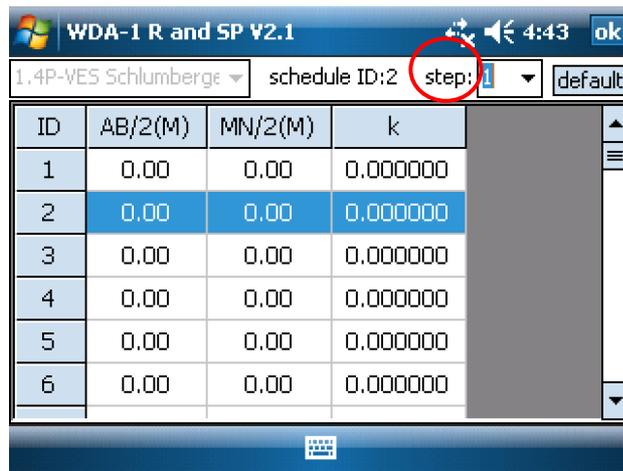

Fig.3-14
**For non-vertical electric sounding configuration**, position and ID of the next survey point changes automatically according to the preset “Station space” and “Step”. If operator wants to test a survey point once again, “Station space” and “Step” should be set as 0 (Fig.3-14). Operation is, clicking “Schedule” buttons to modify the parameters and then clicking “Measure”.